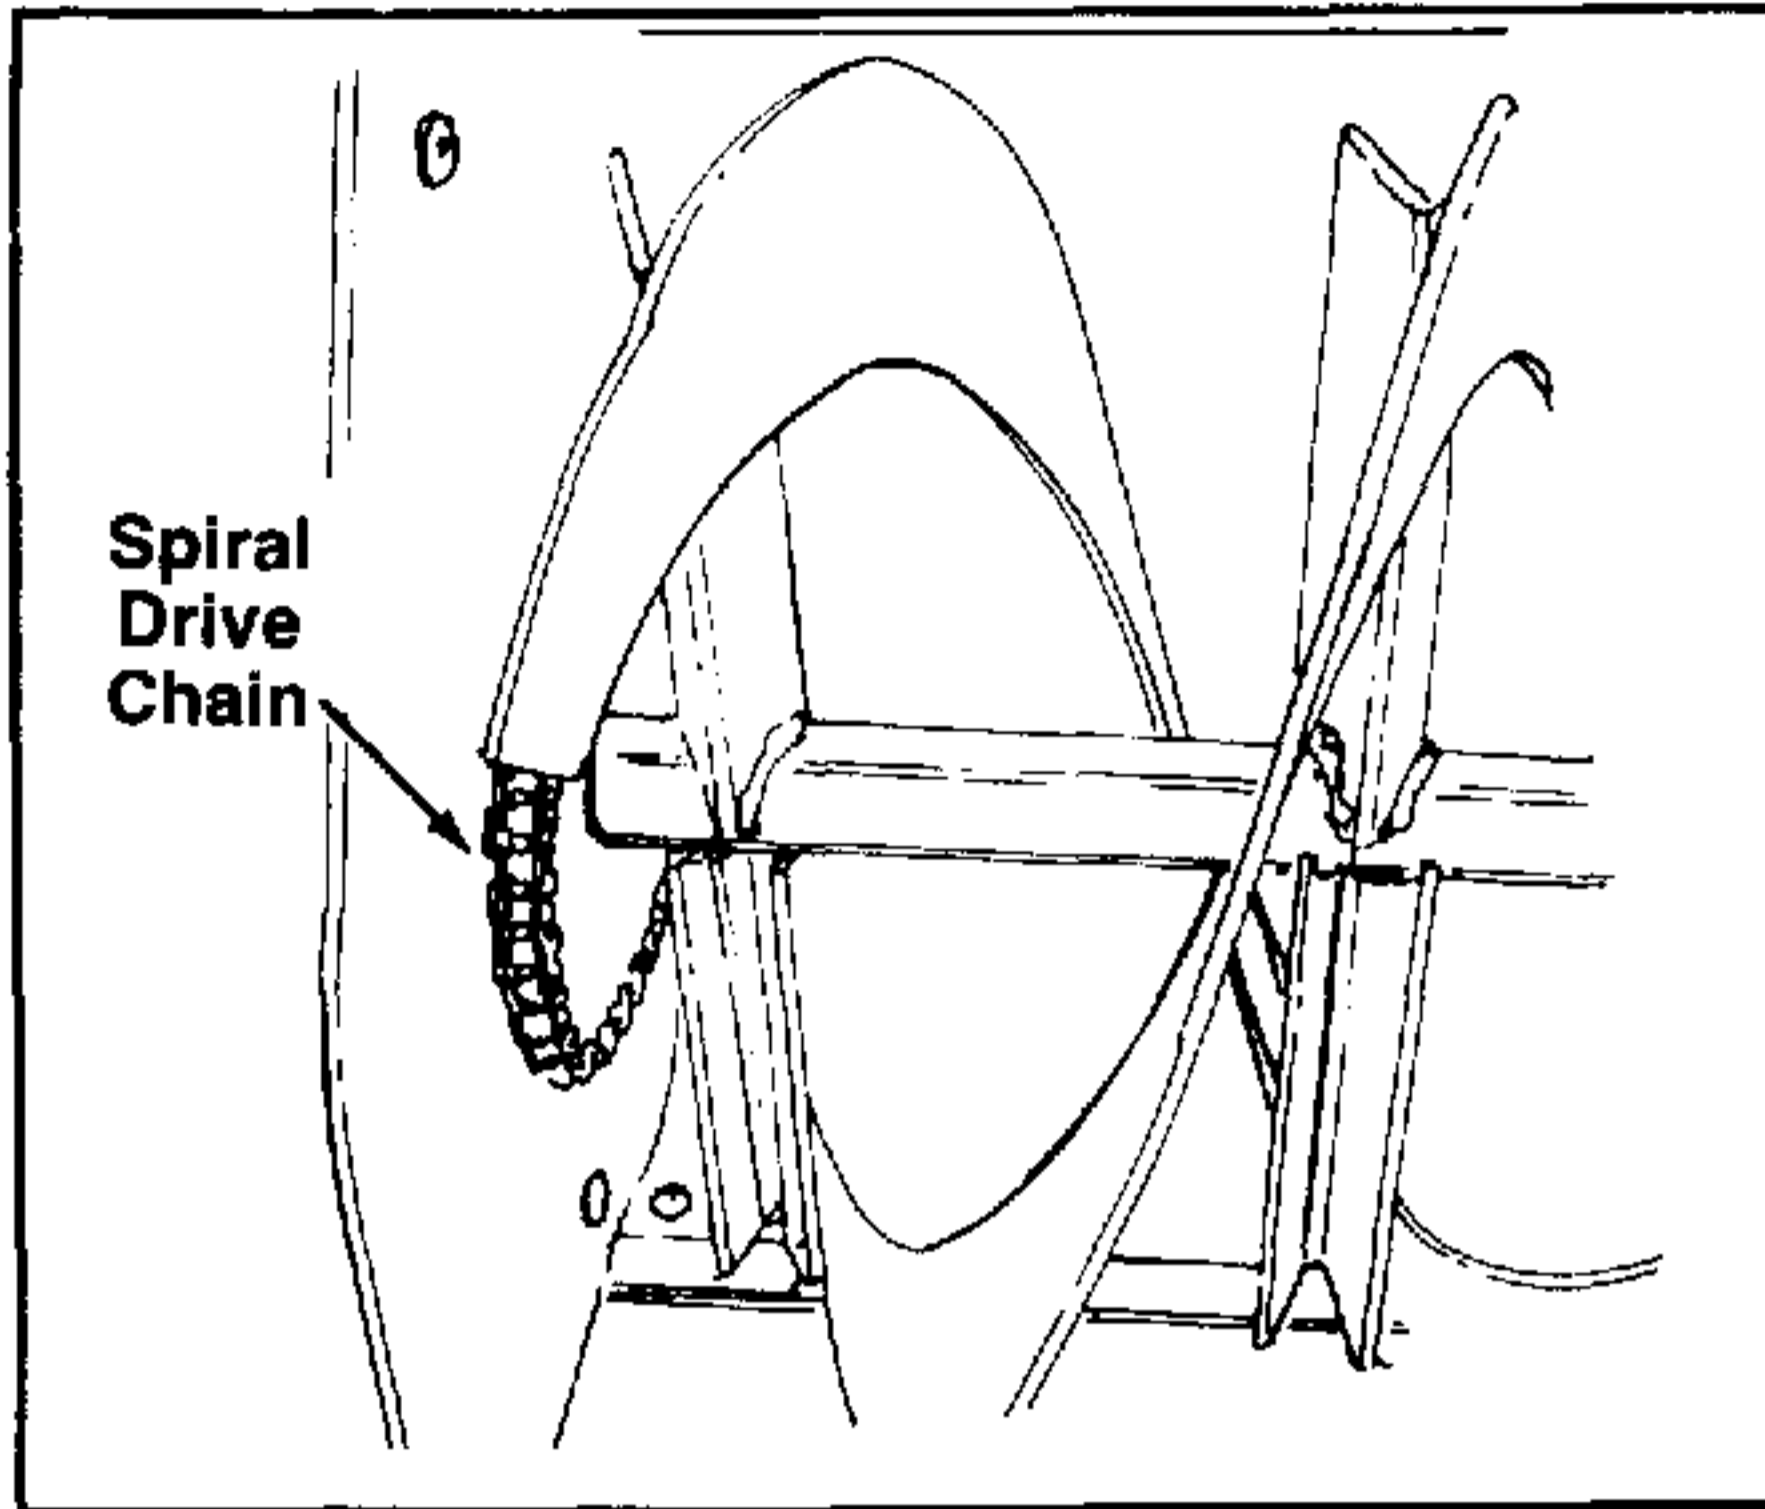

FIGURE 13.
1. Spiral drive chain: Lubricate chain every 40 hours with No. 30 oil. It is important that oil reaches inside each roller. Wipe off excess oil from chain. See figure 13.